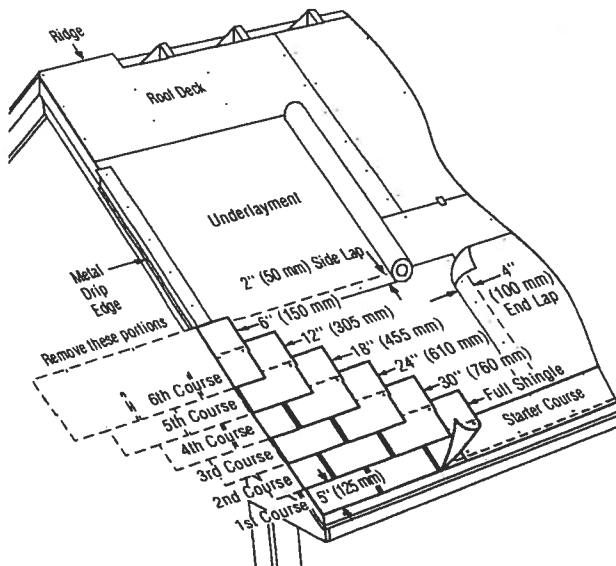

Figure 12-8: Applying the first 6 courses on a standard slope.
**1ST COURSE:** Apply a full shingle at the lower left corner of the roof. Make tabs lie flush with the edges of the starter course. In this way, sealant on the starter strip will adhere to the first-course tabs and help keep them from lifting in high winds (Figure 12-8).
1. Cut 6" off the left side of a shingle and install this 30" piece over and above the first-course shingle, in line with the left edge of the starter course. Leave the 5" tabs of the first-course shingle exposed (Figure 12-8).
2. Cut 12" off the first shingle of the third course, 18" off the first shingle of the fourth course, 24" off the first shingle on the fifth course, and 30" off the first shingle of the sixth course. Apply each with its left edge in line with the previous course (Figure 12-8).